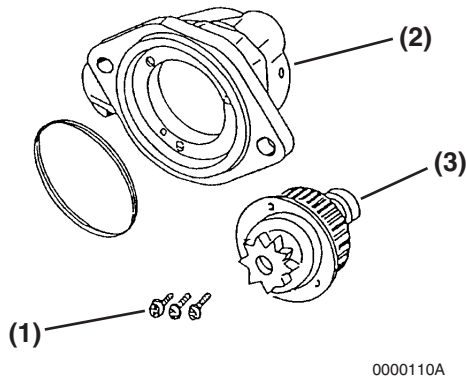

Figure 11-9
- Remove the three M4 bolts (**Figure 11-9, (1)**) securing the bearing retainer assembly (**Figure 11-9, (2)**) to the gear housing. Remove the bearing retainer assembly from the gear housing.
- Remove the pinion clutch assembly (**Figure 11-9, (3)**) from the bearing retainer assembly.